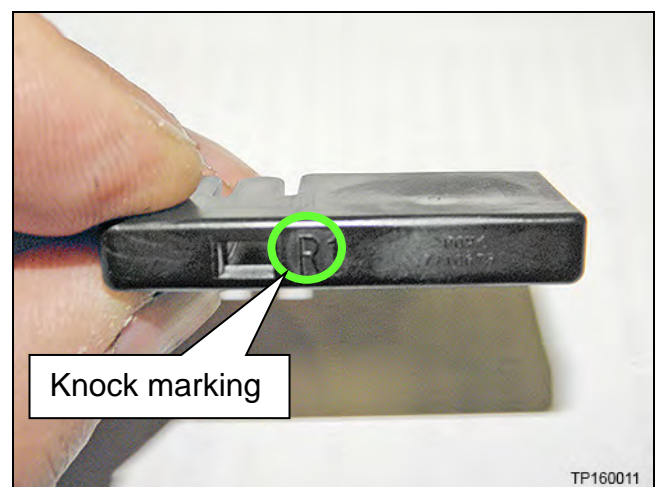

Figure 50
NOTE: Knocks are marked left (L) and right (R). Figure 50 shows a knock for the passenger side and is marked "R".